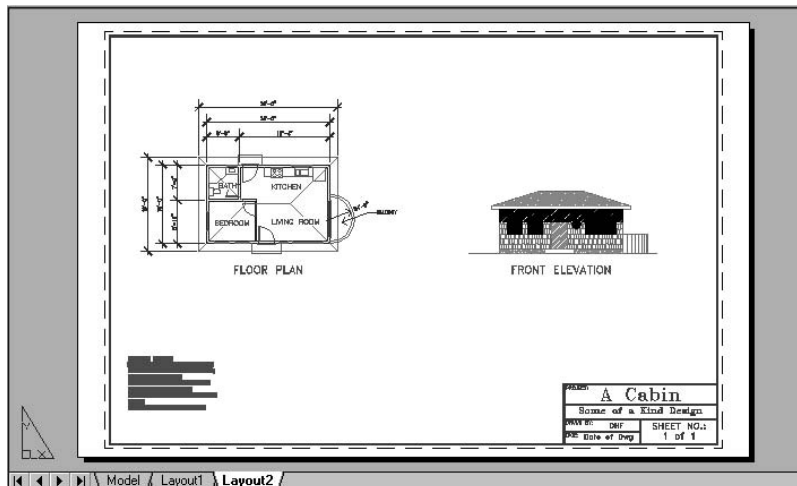

FIGURE 14.13: Cabin13b with the Layout2 tab active
2. This drawing has two Layout tabs. We just printed Layout1. Layout2 consists of an 11" × 17" drawing in landscape orientation. You'll print this one, so be sure Layout2 is active (see Figure 14.13).